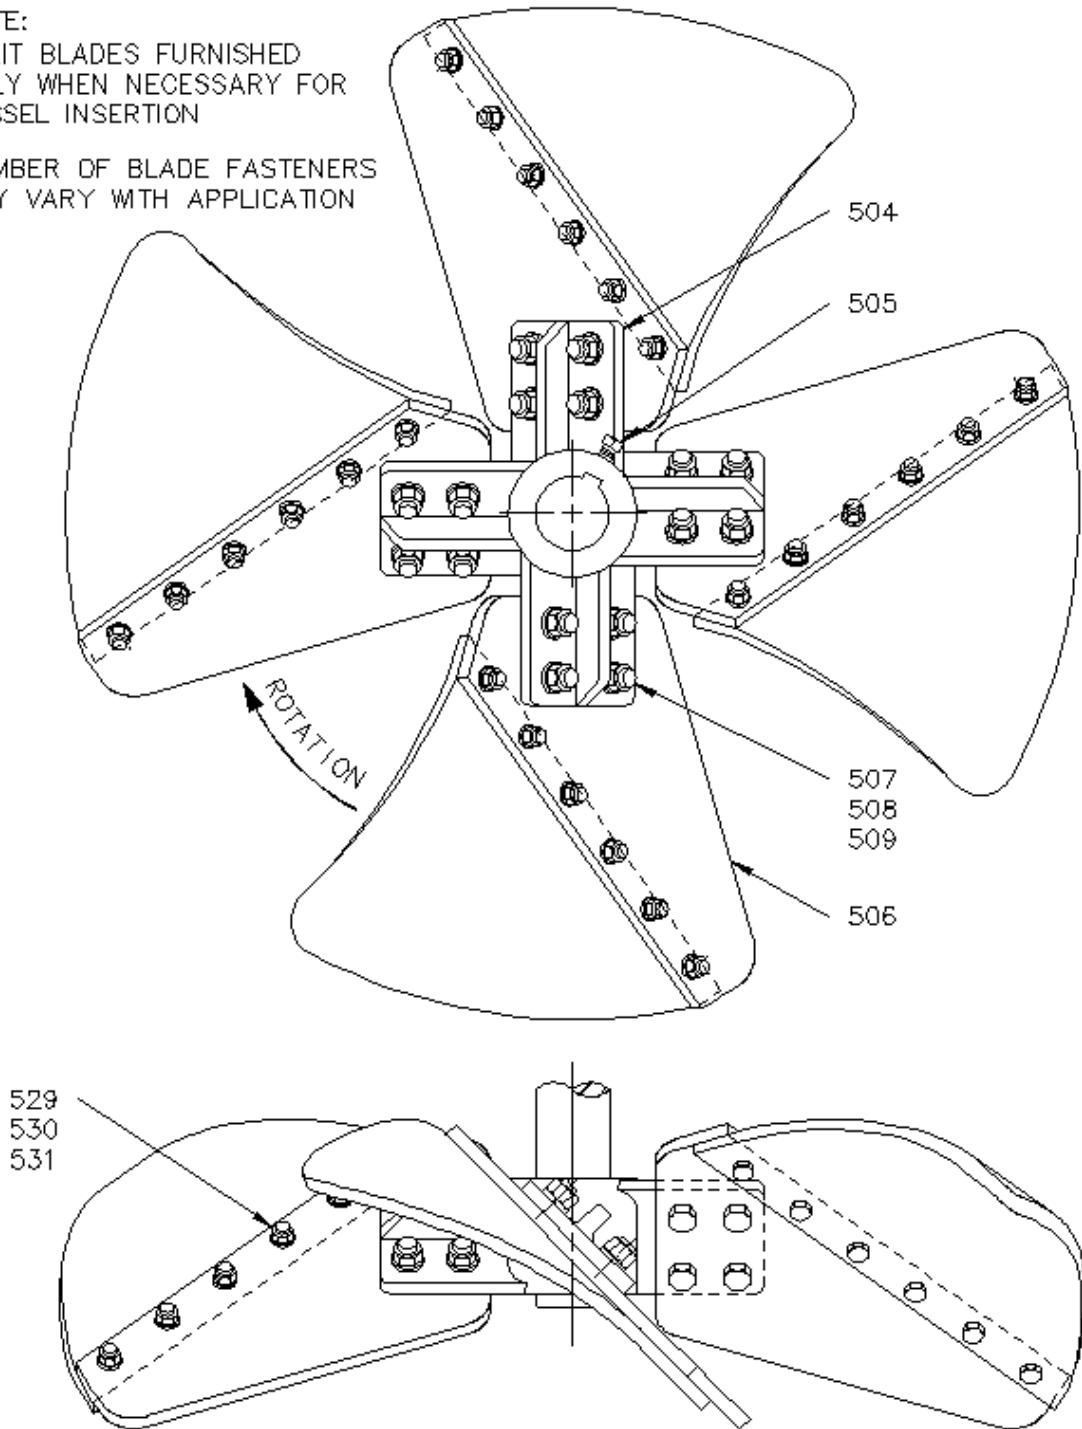

Figure 21. Style Maxflo W Impeller
4. Bolt extension blades [506] to the hub [504] with bolts, nuts and lockwashers [507, 509, 508]. Refer to Figure 16 to Figure 21, page 37 to 43. Bolt split blades, if furnished, to extension blades with bolts, nuts and lockwashers [529, 531, 530]. Bolt stabilizer fins [510], if furnished, to extension blades with bolts, nuts, and lockwashers [511, 513, 512]. Torque bolts to the value shown in Table 17, page 96.